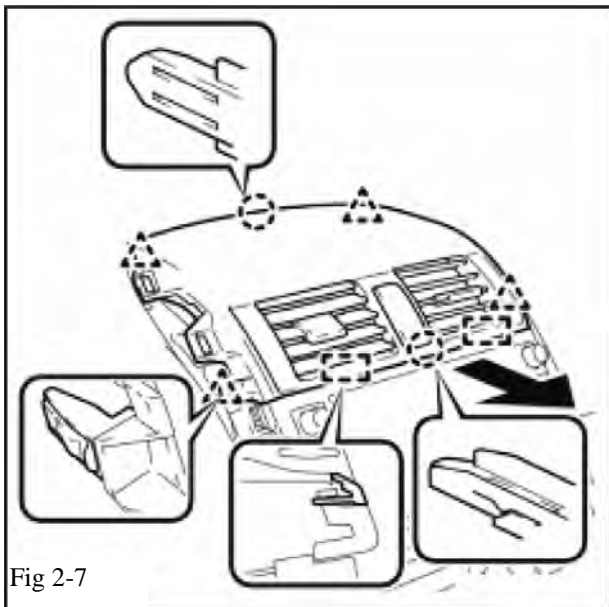

Fig 2-7
- (e) Remove center instrument cluster. (Fig. 2-7)
- (1) Using hands, carefully disengage the two (2) claws, four (4) clips, and two (2) guides.
- (2) Disconnect the connectors and remove the center instrument cluster.